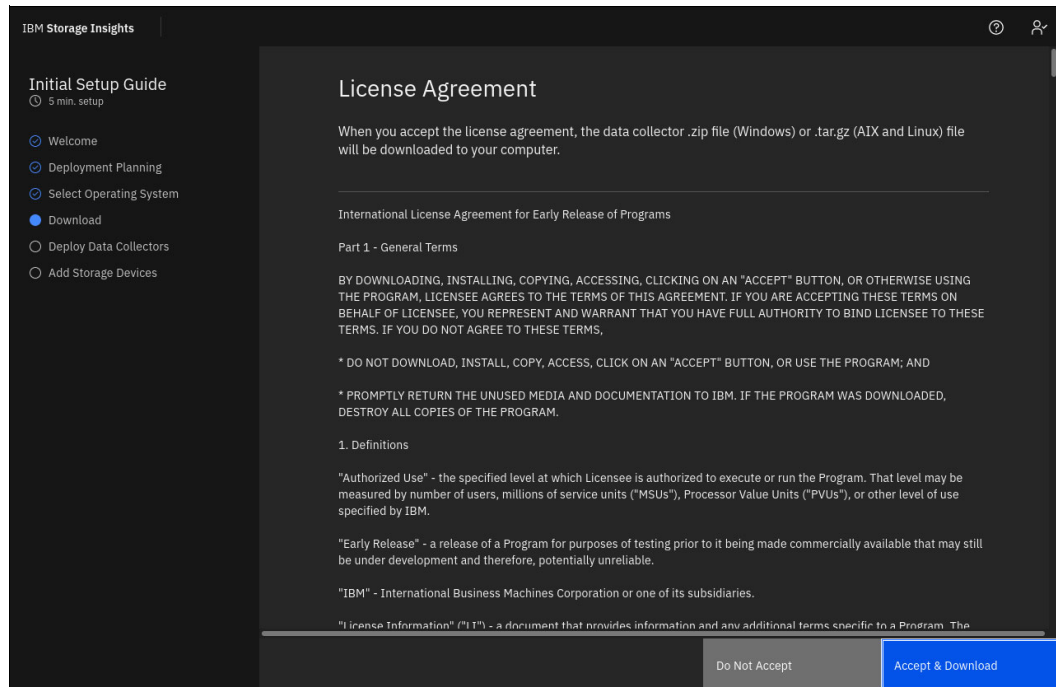

Figure 9-31 Data collector license agreement
2. Accept the license agreement for the data collector, as shown in Figure 9-31.